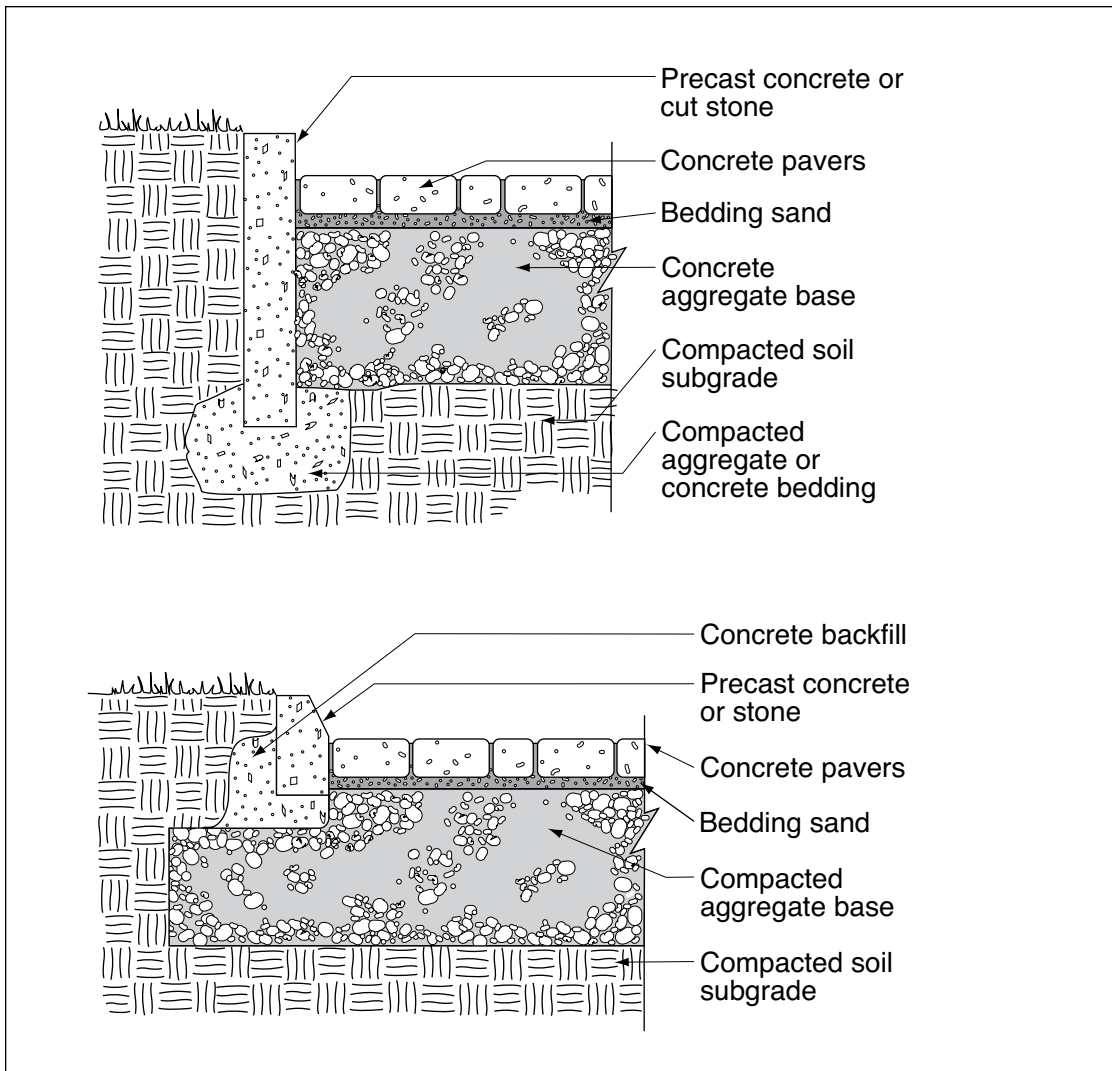

Figure 3. Precast concrete/cut stone.
**Full depth precast concrete or cut stone** edging generally extends the depth of the base material. They can be set on compacted aggregate or concrete backfill (Figure 3).